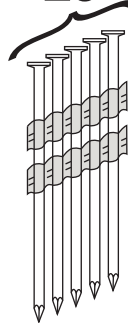

FIG. 4
Do not load strips that contains fewer than five (5) nails - Fig 4. Do not load more than two strips of nails.